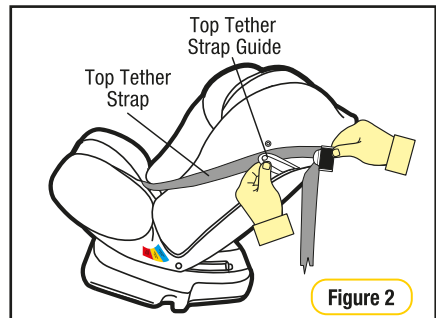

Figure 2
**Step 2:** Continue to extend until the adjuster has reached the desired location at the side of the restraint (refer Figure 2).
**Step 2:** Adjust the headrest height so that the bottom of the headrest is located level with or just above the child's shoulder (refer Figure 2).